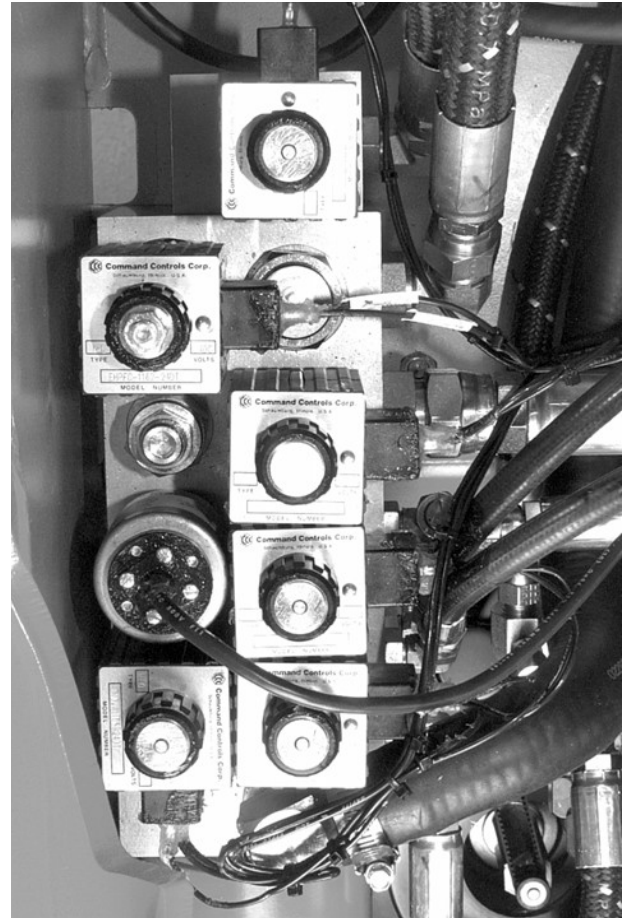

Figure 7-196: Hydraulic Manifold, Series EZ-B (top view, with solenoids)
8. Remove the lift cylinder supply line at the manifold. See Figure 7-196.